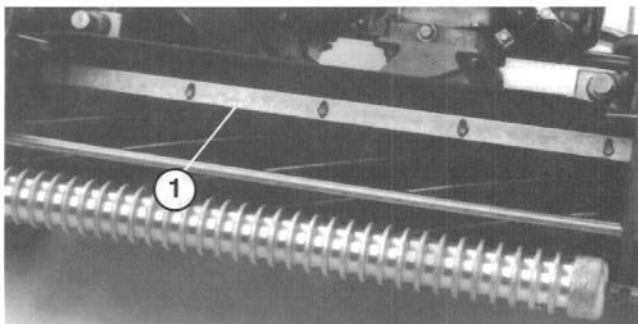

Figure 14
1. Loosen screws securing top bar (Fig. 14) to cutting unit. Insert .060 inch feeler gauge between top of reel and bar and tighten screws. Assure bar and reel are equal distance apart across complete reel.